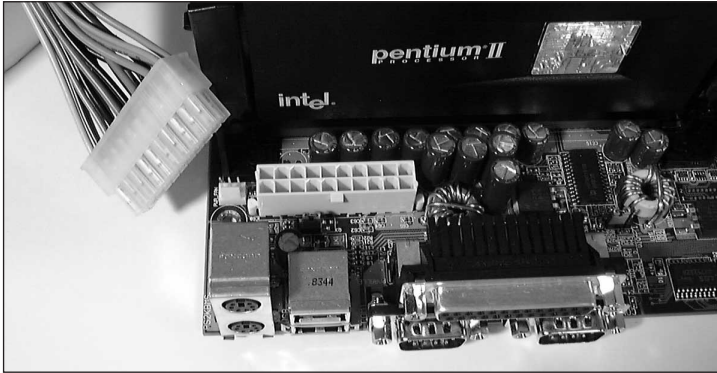

Figure 15-15 Connect the power cord to the system board
- Connect the power cord, which will only go into the P1 power connector in one direction (Figure 15-15).